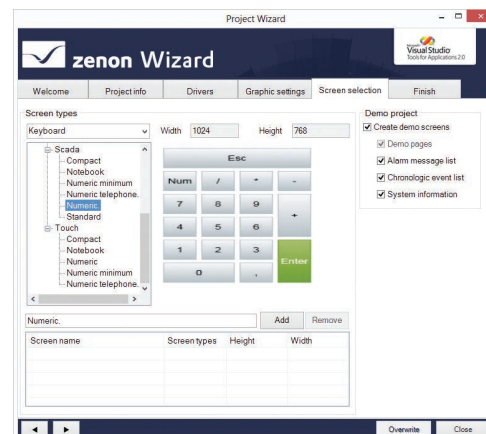

Figure 5: The screen selection for screen types in the zenon project wizard.
- Handling of screen templates (see *Figure 5*): zenon standard and user-defined screen template selection and import.